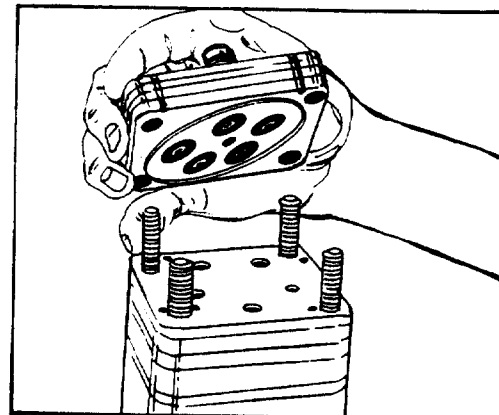

FIGURE 89.
40. Align a groove on the side of the port cover (2) with the grooves on the side of the port manifold (8) and place the port cover (2) into position. See figure 89.